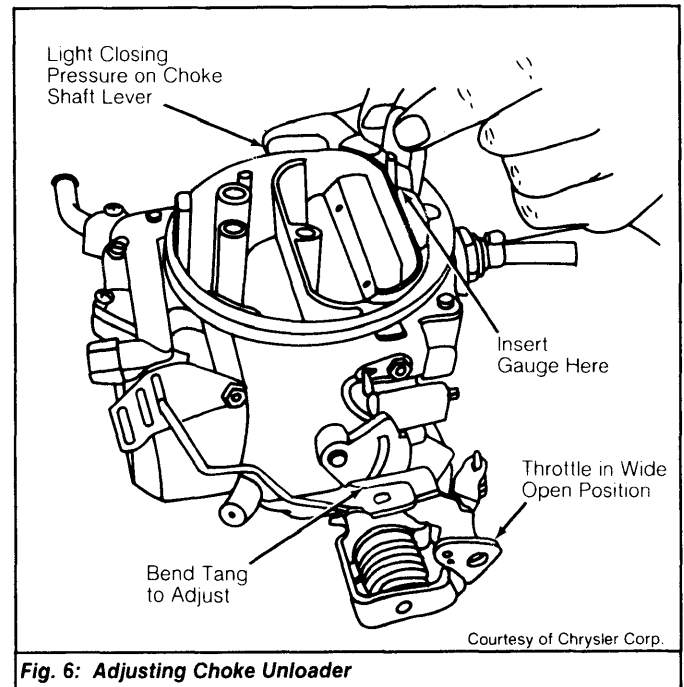

Fig. 6: Adjusting Choke Unloader
1) Hold throttle valves in wide open position. Hold choke valve toward closed choke position by applying light closing pressure to choke lever. See Fig. 6.